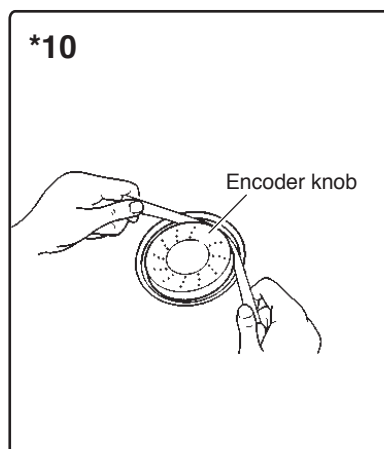

Fig.3-4
- *10 Encoder Knob (See Fig.3-4.)